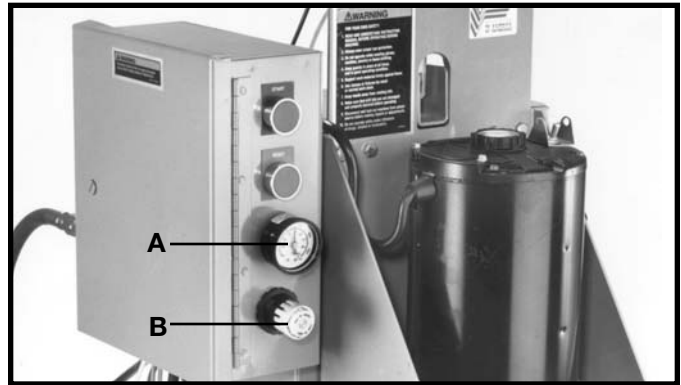

Fig. 44
An air pressure gage (A) Fig. 44, and regulator (B) are supplied to regulate the air pressure used to operate the machine. To adjust the air pressure, pull out and turn regulator (B) until the correct air pressure is indicated on the gage (A), push regulator (B) back into the locked position. For best results set pressure at 90 psi.